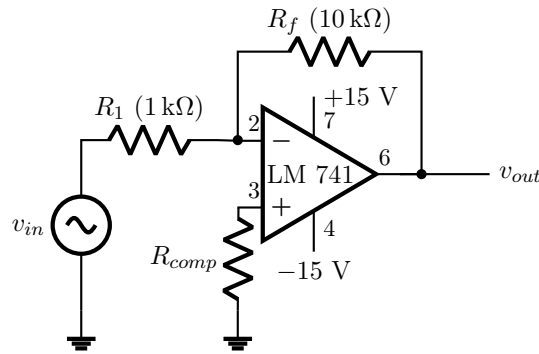

Figure 6.1: Inverting Amplifier Circuit Diagram
The circuit schematics for both configurations are detailed in Figures 6.1 and 6.2.
2. Construct the inverting amplifier circuit shown in Figure 6.1 with $R_1 = 1\text{ k}\Omega$ and $R_f = 10\text{ k}\Omega$.